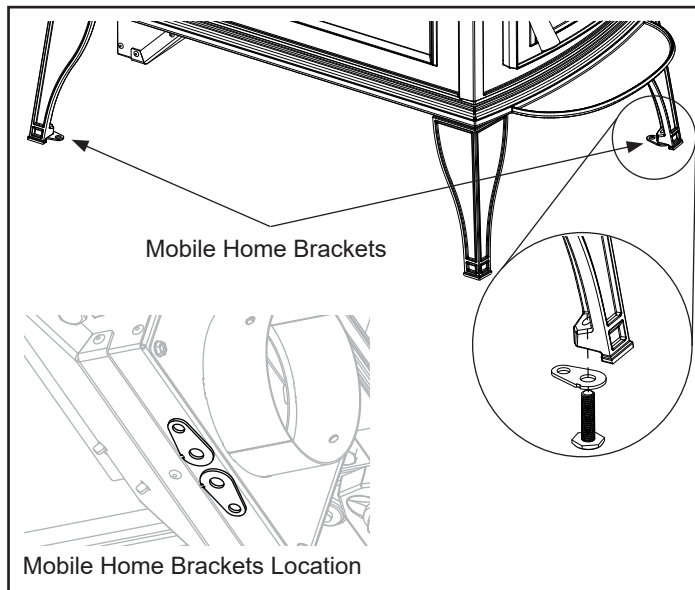

Figure 6.1
1. The stove must be permanently secured to the floor using the mobile home brackets supplied (located at the rear of the unit under the outside air box) along with screws or lag bolts (not supplied). **Note:** The mobile home brackets will need to be removed from the outside air box. **Note:** The mobile home brackets get installed between the leg leveler and cast leg, Figure 6.1